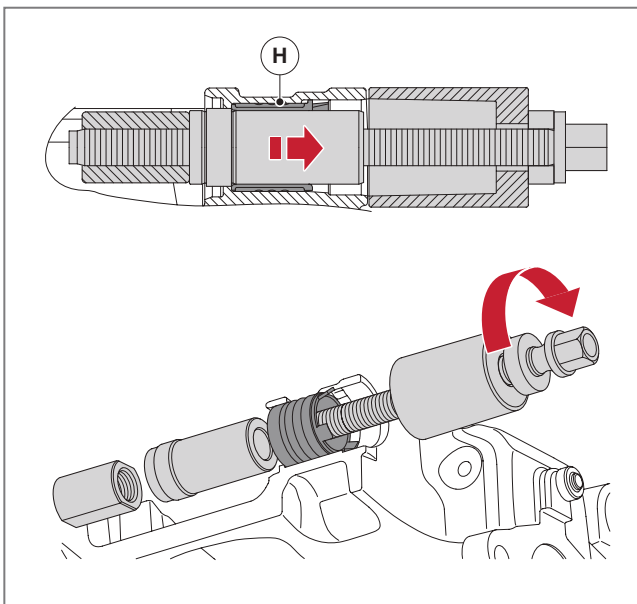

Fig. 63 - Removing the composite bushing
10. The composite bushing (H) on the floating bearing should be removed by hand.
11. If this is not possible, assemble in sequence SAF special tools P/N 4 434 3884 00, P/N 4 434 3837, P/N 4 434 3848 00, P/N 4 434 3841 00, P/N 4 434 3890 00 and P/N 4 434 3889, see ► Fig. 63.